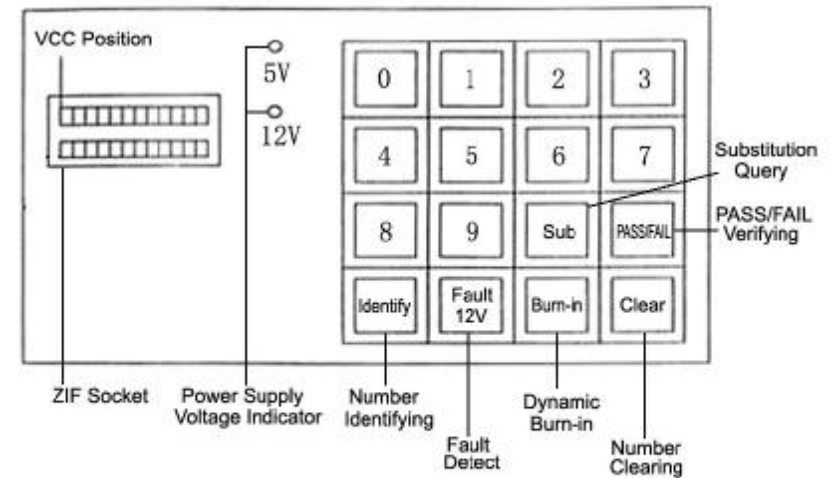

Figure 2
1) The functions of the keys on the panel are showed as figure 2.